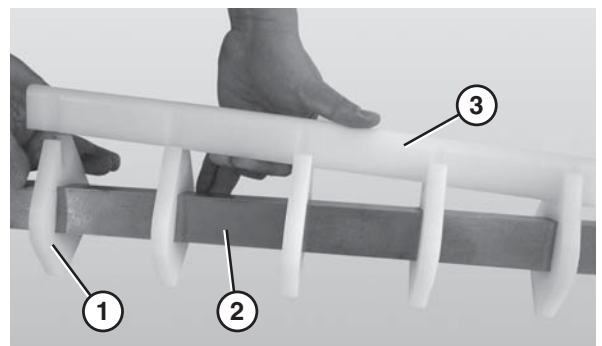

Figure 64
- Slide the nose bar pucks (**Figure 64, item 1**) onto the nose bar drive post (**Figure 64, item 2**).
- Attach the nose bar wear strip (**Figure 64, item 3**).